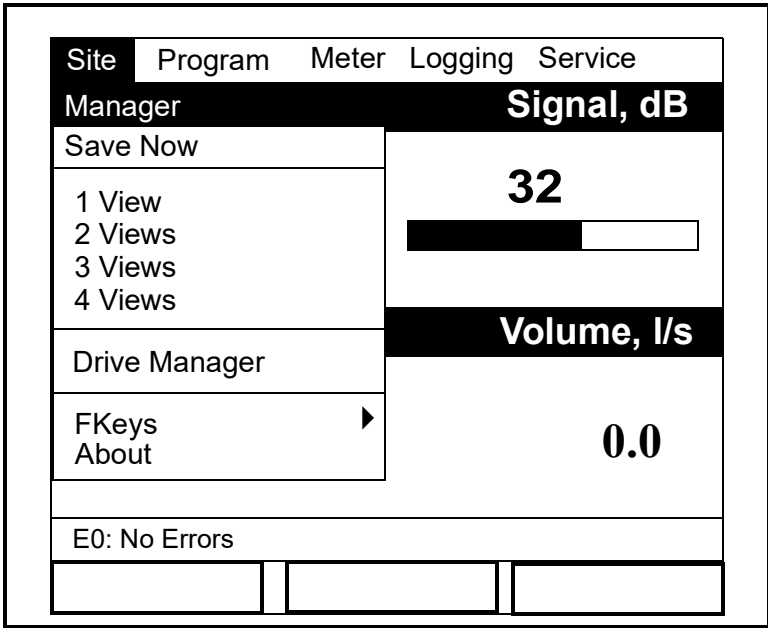
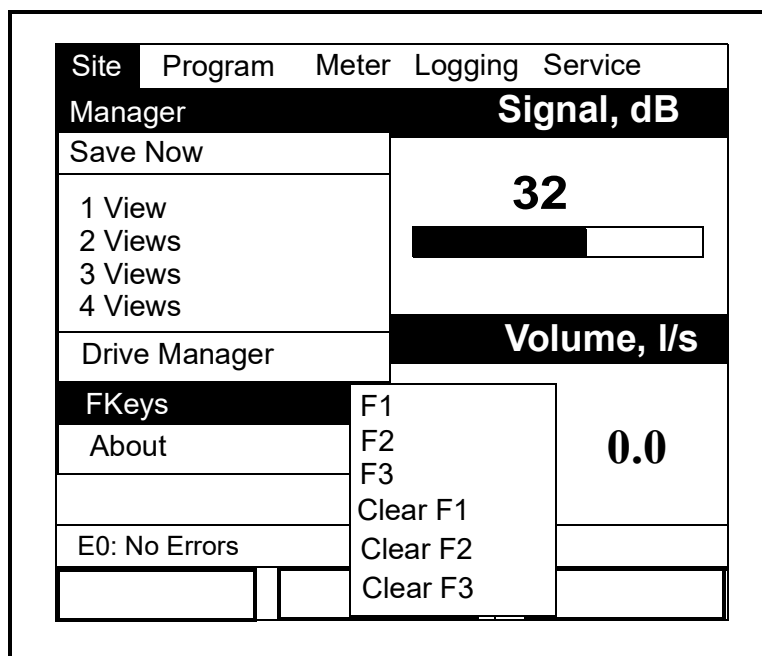

Figure 91: The Site Menu
Figure 93: The FKeys Menu
To enter the Site Menu, press the [MENU] key at the lower right of the PT878GC keypad. The Menu Bar replaces the Status Bar at the top of the screen. The Site Menu will be highlighted in the upper left corner. Press [ENTER] or the [▼] arrow key. The screen now appears similar to Figure 91 below. While following the programming instructions, refer to Figure A-2 on page A-2 of Appendix A, *Menu Maps*.
2. From the Site Menu (shown in Figure 91 above), use the **[▼]** or **[▲]** arrow keys to move to the desired number of views (1 View, 2 Views, etc.) Press **[ENTER]**.
2. From the Site Menu (shown in Figure 91), use the [▼] or [▲] arrow keys to move to the FKeys entry on the menu. Press **[ENTER]**. The screen now appears similar to Figure 93 below.
2. From the Site Menu (shown in Figure 91), use the **[▼]** or **[▲]** arrow keys to move to the FKeys entry on the menu. Press **[ENTER]**. The screen now appears similar to Figure 93.